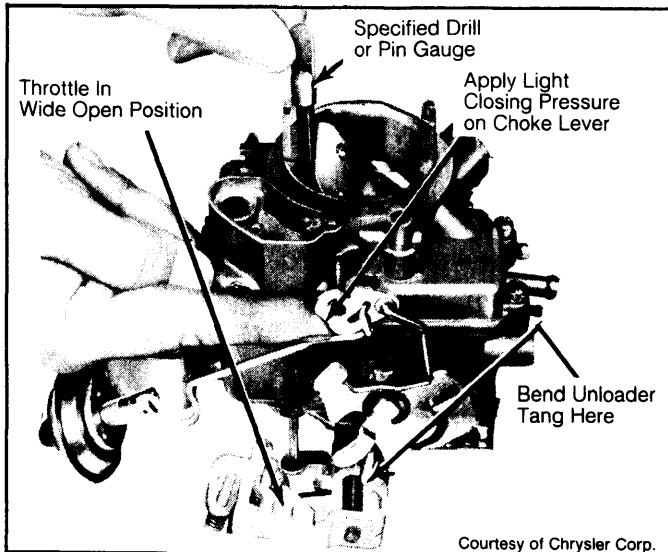

Fig. 4: Adjusting Choke Unloader
- 1) Hold throttle valves in wide open position. Hold choke valve toward closed choke position by applying light closing pressure to choke lever. See Fig. 4.